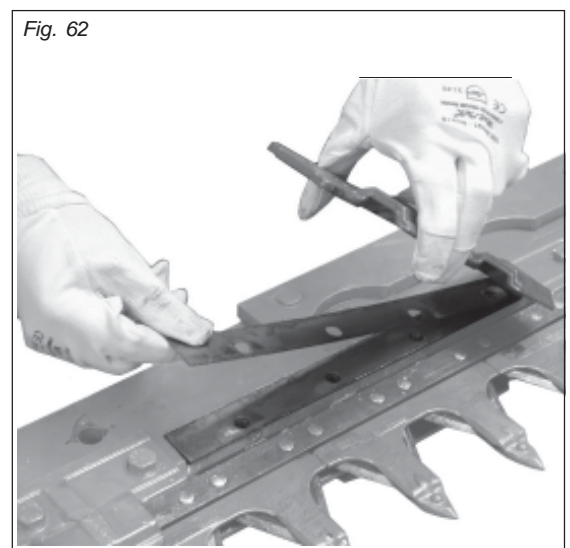

Fig. 62
- remove one or more shims (Fig. 62);